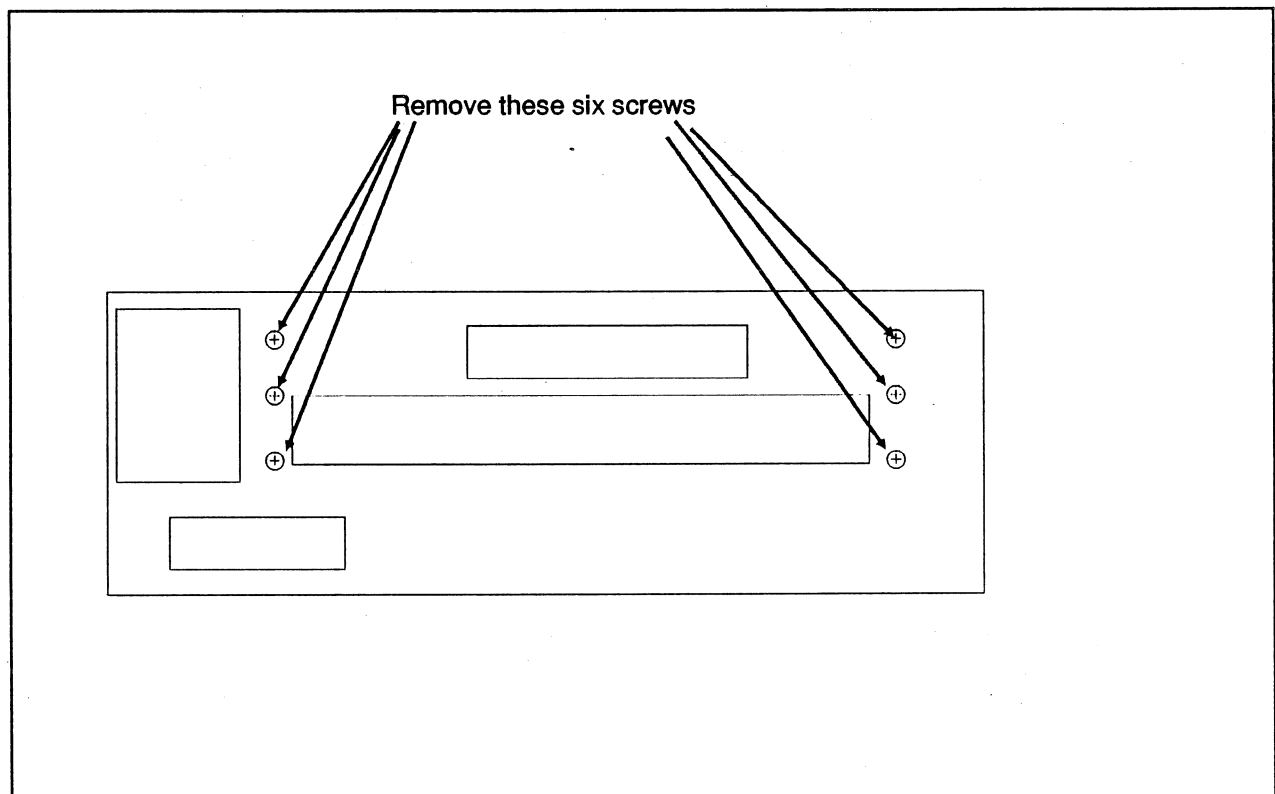

Figure 2-7. Removing the Six Screws from the Rear Panel
- 5 Remove six screws from the rear panel. See Figure 2-7.